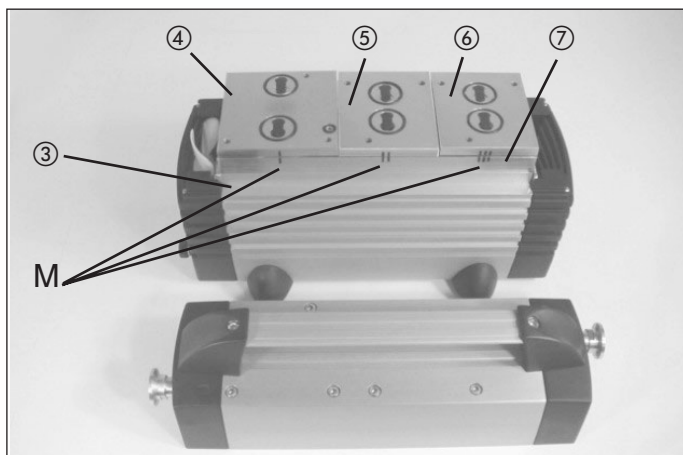

Fig. 5: Servicing level 2
- ➍ Mark the position of intermediate plate ➎ and adapter ➏ relative to each other by a drawing line (M) with a felt-tip pen. This helps avoid incorrect assembly later (fig. 5).
- ➎ Mark the position of intermediate plate ➐ and adapter ➏ relative to each other by two drawing lines (M) with a pencil (see fig. 5).
- ➏ Mark the position of intermediate plate ➑ and adapter ➏ relative to each other by three drawing lines (M) with a pencil (fig. 5).
- ➐ Lift the intermediate plates ➎, ➏ and ➑ off the adapter ➏ (fig. 5).